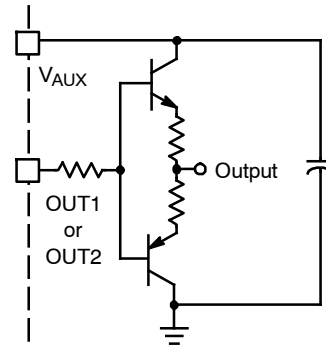

Figure 46. Discrete Boost Drive Stage
1.0 A. If a higher drive capability is required, an external driver stage can be easily added as shown in Figure 46.